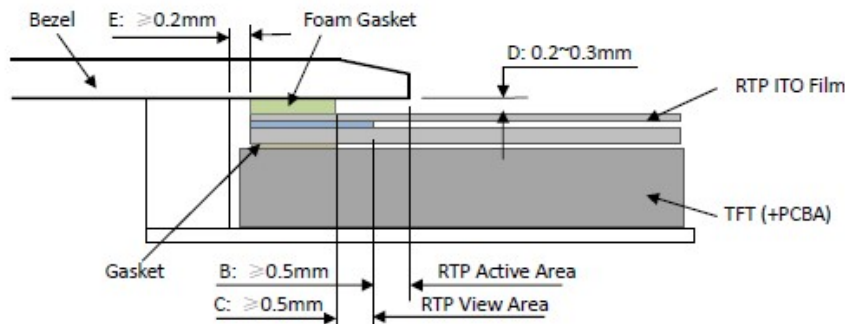

Figure 4
- It should bezel touching the RTP Active Area (A.A.) to prevent abnormal touch.It should left gab $D=0.2\sim 0.3\text{mm}$ in between. (Figure 4)
- Outer bezel design should take care about the area outside the A.A. Those areas contain circuit wires which is having different thickness. Touching those areas could de-form the ITO film. As a result bezel the ITO film be damaged and shorten its lifetime. It is suggested to protect those areas with gasket (between the bezel and RTP).The suggested figures are $B\geq 0.50\text{mm}$; $C\geq 0.50\text{mm}$. (Figure 4)
- The bezel side wall should keep space $E=0.2\sim 0.3\text{mm}$ from the RTP. (Figure 4)
- 为避免面框直接压在动作区 (A. A.) 上造成误动作，面框与电阻触摸屏 (RTP) 之间应留有一定的空隙 $D=0.2\sim 0.3\text{mm}$ 之间。(附图 4)
- 设计面框时，要注意用面框保护触摸屏四周的非保证操作区域，因为布线区域在此处形成一台阶，在此区域附近操作时 ITO Film 变形较大，容易导致 ITO 损坏而降低寿命。为保护 RTP 和避免误操作，在 RTP 与面框之间垫缓冲物 (Gasket)，我们建议设计面框应覆盖动作区的边缘，面框边缘到 V. A. 区的距离 $B\geq 0.50\text{mm}$ ；垫圈内边缘到 V. A. 区的距离 $C\geq 0.50\text{mm}$ 。（附图 4）
- 在设计面框与 RTP 组装时，应考虑到面框内侧与 RTP 外侧的间距 $E\geq 0.2\text{mm}$ 。（附图 4）